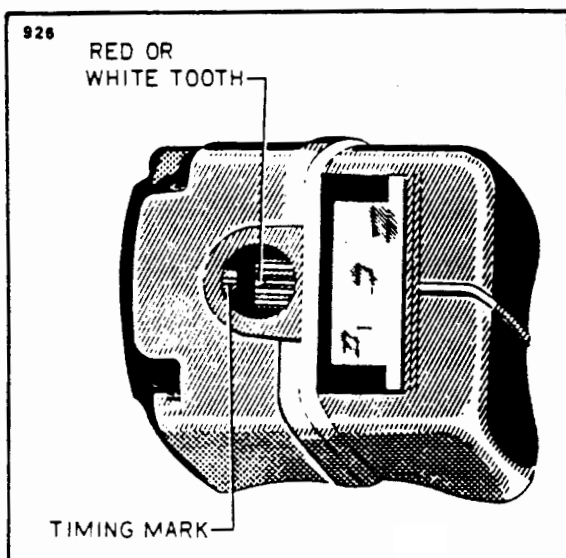
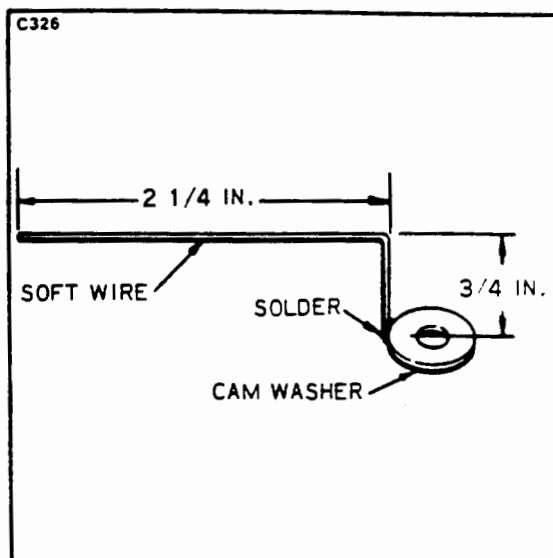

Figure 8-16. Magneto Timing Marks
Figure 8-17. Timing Pointer
c. With timing plate and pointer attached (Refer to Figure 8-17.) and pointer set at zero, rotate coupling from neutral in a left hand direction 10 degrees. Appearing through timing hole, ascertain if the white or red tooth aligns with the white line of the distributor block. (Refer to Figure 8-16.) Alignment may not vary over ± 4 degrees.
A pointer may be formed as shown in Figure 8-17.